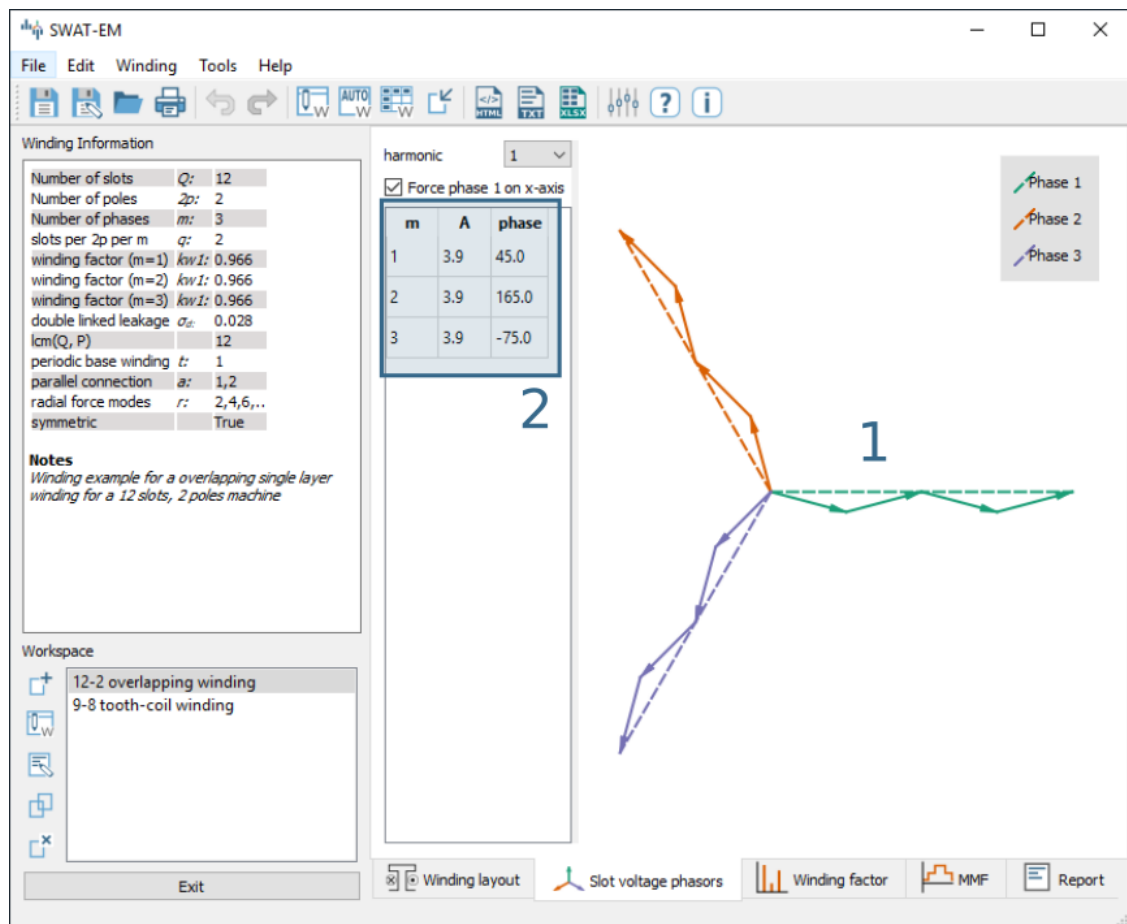
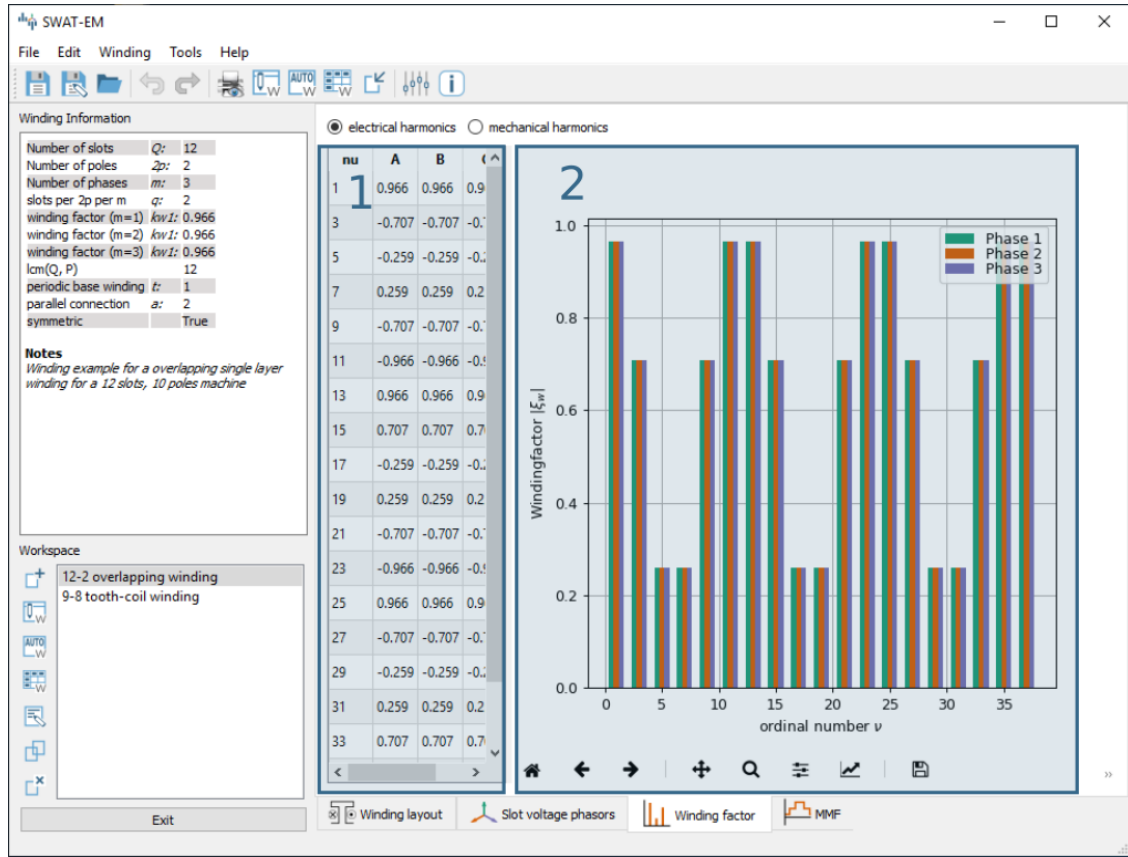

Figure 4.2: Phasors plot
Figure 4.3: Winding factor plot
All phasors of a phase are getting grouped a vectorial summed up which is shown as (1) in figure 4.2. The dotted line represents the vectorial sum. The amplitude and the phase of this is shown in (2). Options:
It can be seen in figure 4.2 that the winding factor gets the maximum value of 1 if all phasors of a phase have the same phase angle. Typically the winding factor is specified with a sign. This indicates the direction of the magnetic field wave, that is generated by the winding in the airgap. SWAT-EM determines the sign by generating the phasors plot for every harmonic number and detecting the sequence of the phases. Figure 4.3 shows the values in (1) as a table and the absolute values as a bar plot in (2). Both can be displayed with respect to the mechanical ν or the electrical ν_{el} ordinal number by the radio buttons on the top of the table.